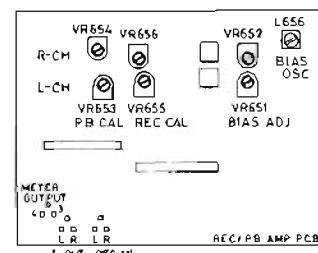

Fig. 3-1
3. Output should be measured at pin 3 (L-ch) and pin 4 (R-ch) on the rec/playback amp p-c board. Input signal should be applied to REC IN terminal on the rec/playback amp p-c board (see Fig. 3-1).
- Play back test tape LCT-7001, and adjust potentiometer VR653 (VR654 for R-ch) on the rec/playback p-c board (Fig. 3-1) so that the AC voltmeter reads 580 mV.
- If recording and playback levels differ from each other, repeat step 3 until the two levels become almost equal, by adjusting potentiometer VR655 (VR656 for R-ch) on the rec/playback p-c board (Fig. 3-1) while recording.
- Play back the recorded tape. If there is a difference in playback level between the two signals, adjust potentiometer VR651 (VR652 for R-ch) on the rec/playback p-c board (Fig. 3-1), by repeating recording and playback until the difference of output level is within  $\pm 1$  dB.